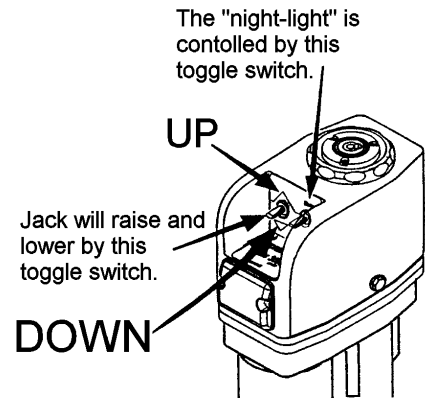

Figure 1-2A
2. Turn the key switch on the lower control panel to SET UP (Refer to Figure 1-2A). Press the toggle switch on the power jack UP to raise the tongue above the hitch ball. Remove the towing vehicle from the work area. Press DOWN on the power jack switch to lower the tongue to the ground.